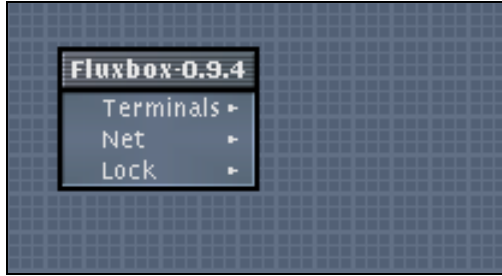

Figure 9-35 HMC window
- b. Click the right mouse key on the blank screen. The box in Figure 9-35 is displayed.